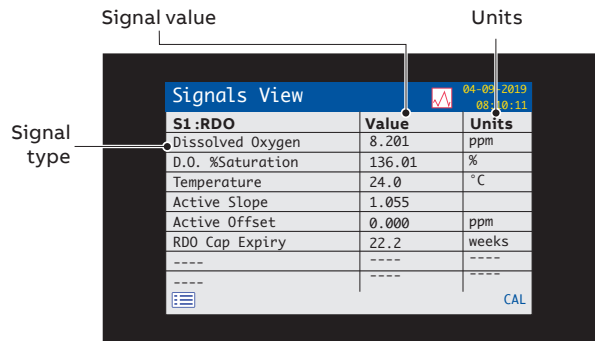

Figure 23 Signals View
- **Signals View** – displays a list of active signals and their values (1 page per sensor) – see Figure 23